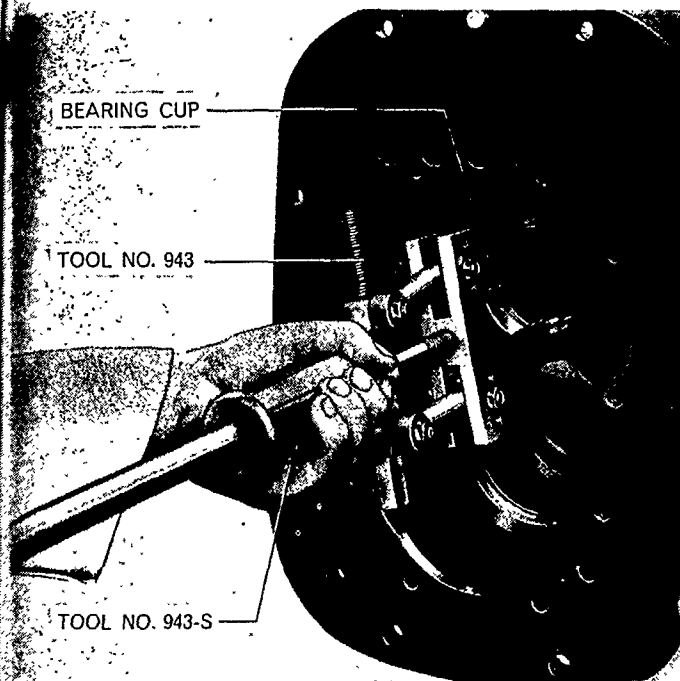

Figure 48
6. If necessary remove the mainshaft rear bearing cup from the transmission case, using Tools 943 and 943-S, Figure 48.